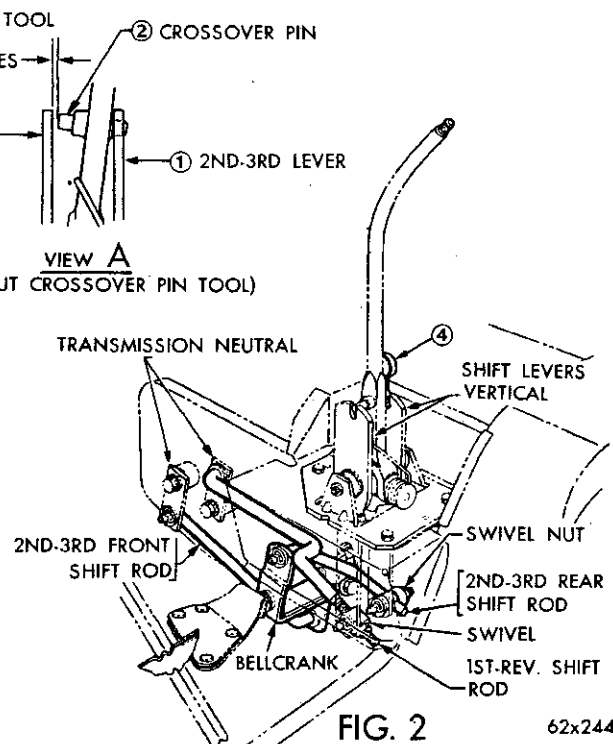

FIG. 2
3. PRESET THE LENGTH OF THE 1ST-REV. SHIFT ROD, BY ADJUSTING THE SWIVEL, AND INSTALL IT SO THAT THE TRANSMISSION WILL BE IN NEUTRAL AND THE SHIFT LEVERS VERTICAL. (SEE FIG. 2.)
4. INSTALL 2ND-3RD FRONT SHIFT ROD, BELLCRANK, AND 2ND-3RD REAR SHIFT ROD, IN THAT ORDER, AS SHOWN IN FIG. 2. WITH TRANSMISSION IN NEUTRAL, TIGHTEN SWIVEL NUT TO 20 LBS. PER INCH TORQUE.